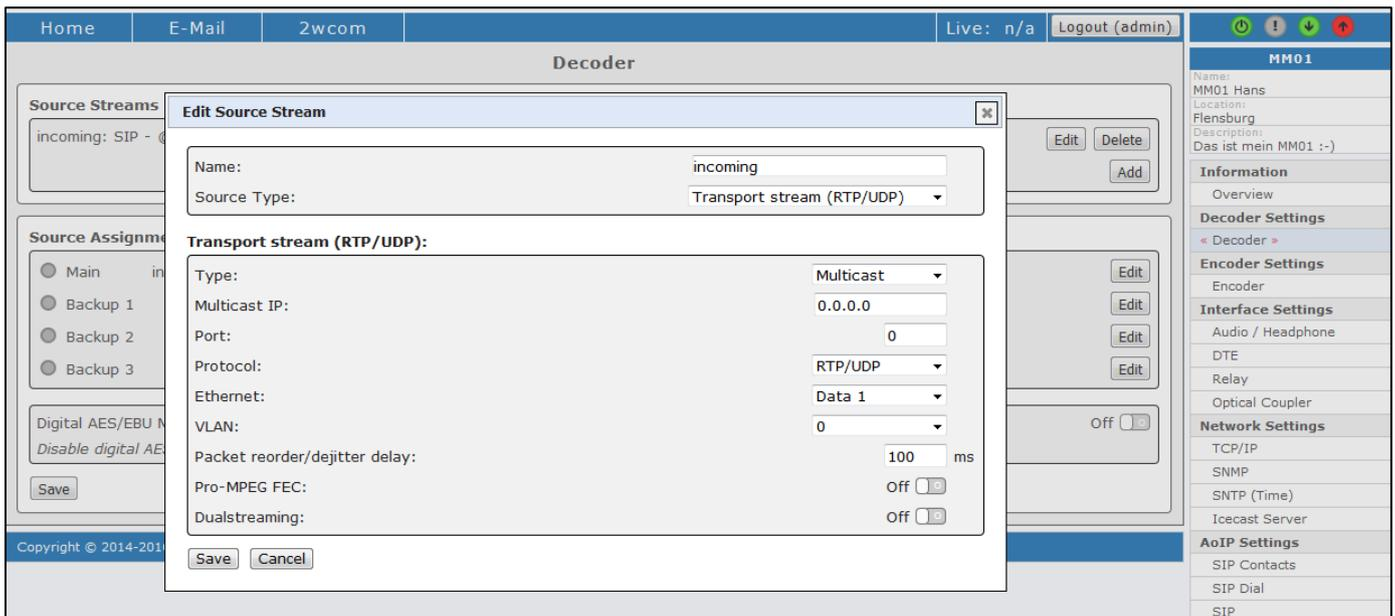

Figure 35: Input Source Settings – Transport stream over IP (RTP/UDP)
1. Choose "Transport stream (RTP/UDP)" in the field **Source Type**. The menu will be extended to the block **Transport stream (RTP/UDP)** (see Figure 35).